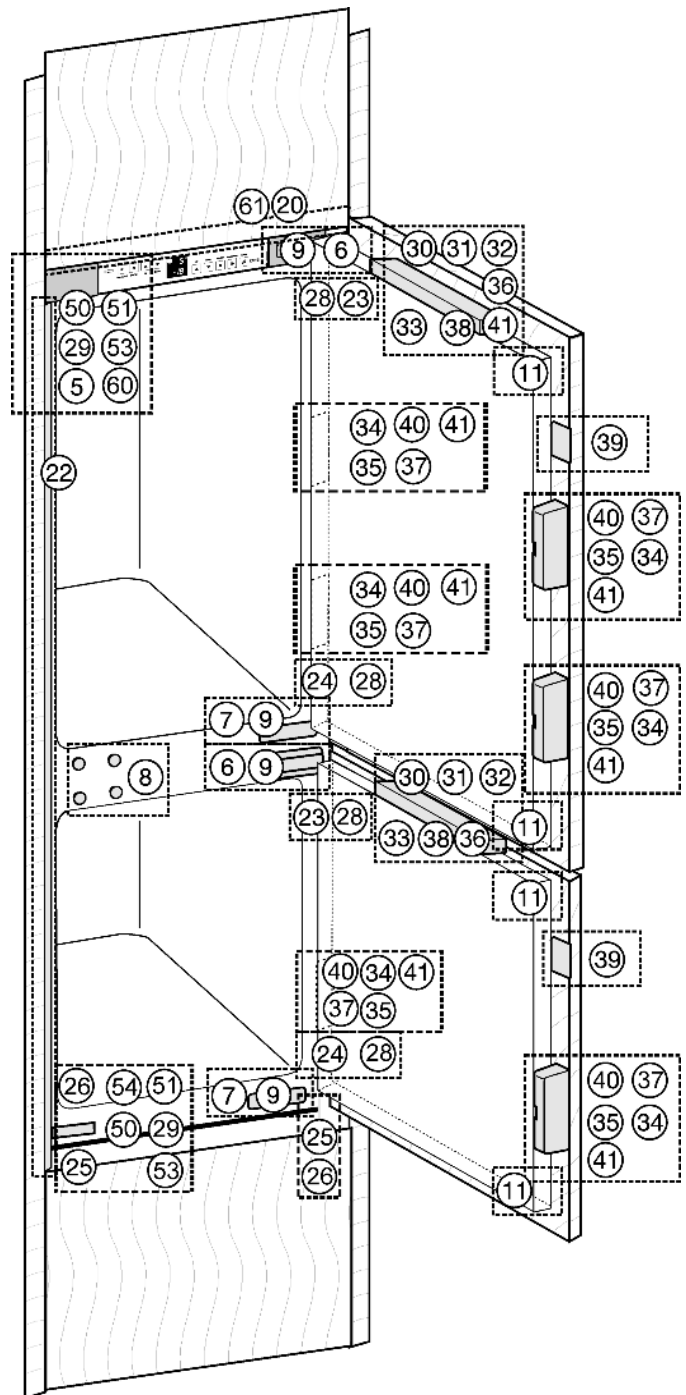
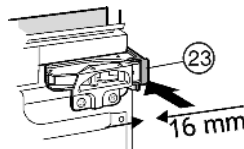
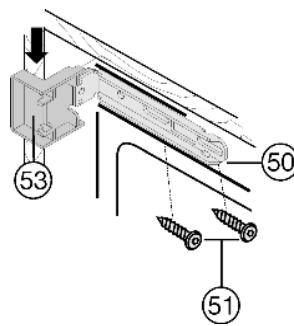
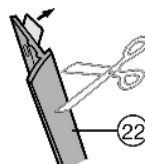

Fig. 9
Fig. 14
Fig. 15
Fig. 16
- ▶ Remove the covers *Fig. 9 (5,6,7)*.
- ▶ Clip a spacer *Fig. 14 (23)* onto the upper hinges and a spacer *Fig. 9 (24)* onto the lower hinges.
- ▶ Attach the top and bottom covers *Fig. 15 (53)* to the mounting brackets *Fig. 15 (50)*.
- ▶ Fasten the mounting brackets *Fig. 15 (50)* at the top with screws *Fig. 15 (55)* and at the bottom with screws *Fig. 9 (51)* such that the bracket can still be moved slightly to the left and to the right.
- ▶ Remove the protective film from the trim *Fig. 16 (22)*. Attach the trim *Fig. 16 (22)* on the handle side and flush with the front to the projecting edge of the cover *Fig. 15 (53)* and glue to the sidewall of the appliance.
- ▶ To shorten the trim *Fig. 16 (22)* at the bottom, if necessary: Position the cover *Fig. 9 (54)* on the bottom mounting bracket *Fig. 15 (50)* and shorten the trim *Fig. 16 (22)* so that it is flush with the upper edge of the cover.
- ▶ Remove the cover *Fig. 9 (54)* again.
- ▶ Slide the appliance in until it comes into contact with the covers *Fig. 15 (53)* on the side wall of the unit. *Fig. 15*
- ▶ Allow for the additional distance (depth of door stop components). Allow the hinges and the covers *Fig. 15 (53)* to protrude by the additional distance.
- ▶ Adjust the adjustable feet *Fig. 9 (25)* with the supplied open-ended wrench *Fig. 9 (26)* to align the appliance vertically.